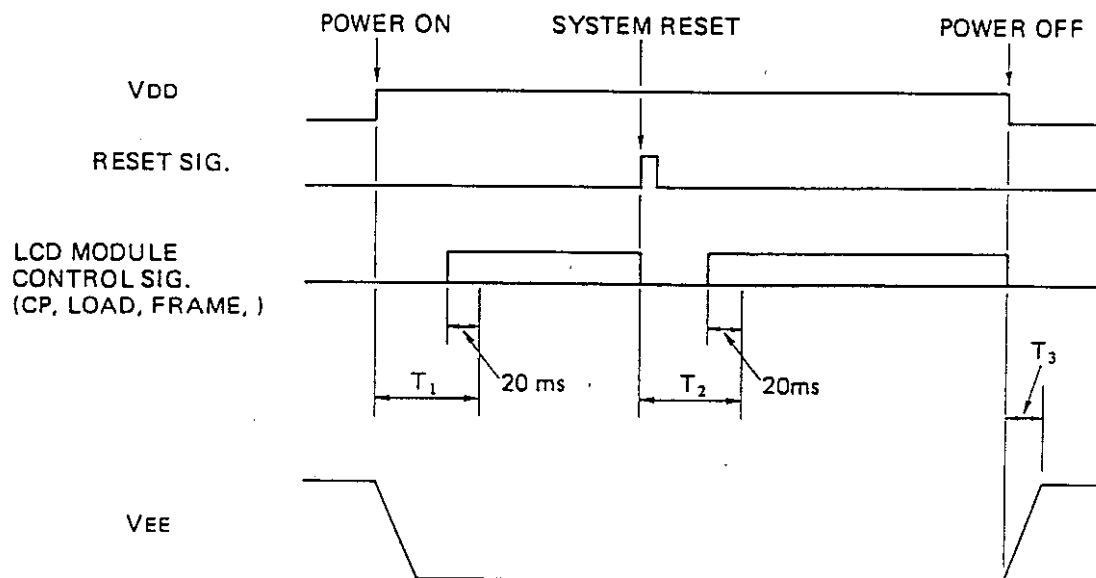
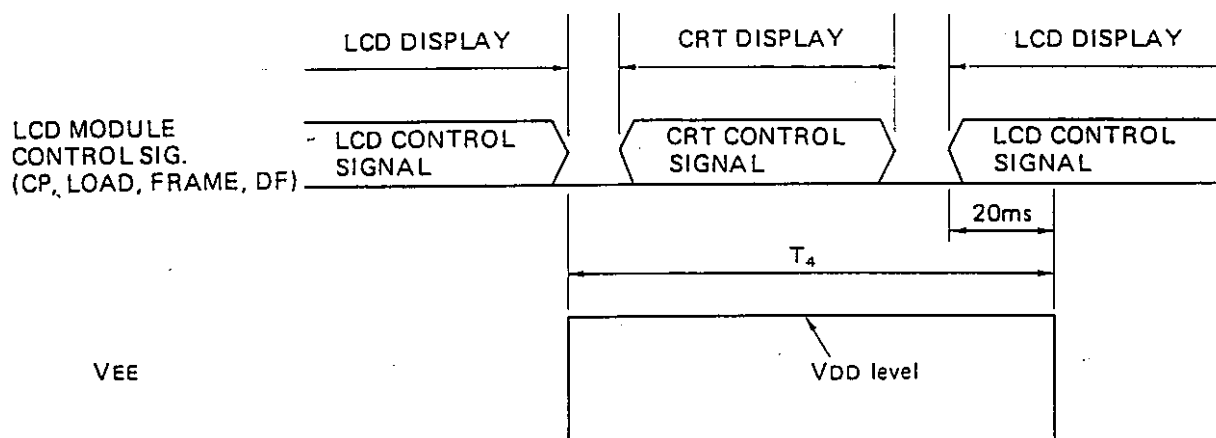

Fig.12-1
Fig.12-5
When LCD module is used in some system, there is possibility of DC voltage being applied to LCD panel in the time periods of T_1 , T_2 and T_3 shown in Fig.12-1 below and T_4 shown in Fig.12-5 later.
- T_4 : A time in which controller IC is controlling CRT +20msec. (See Fig.12-5 later.)
There is an instance that normal control signal is not sent to LCD while the controller IC is working to control CRT. In such instance, the display of LCD panel goes out of order and DC voltage might be applied to LCD panel. It is as shown by T_4 in Fig.12-5 below that there is possibility of DC voltage being applied to LCD panel.